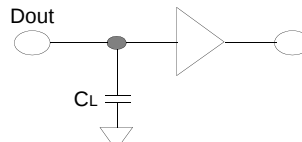

Figure 27. Output Load
- Output load (See Figure 27): 50pF